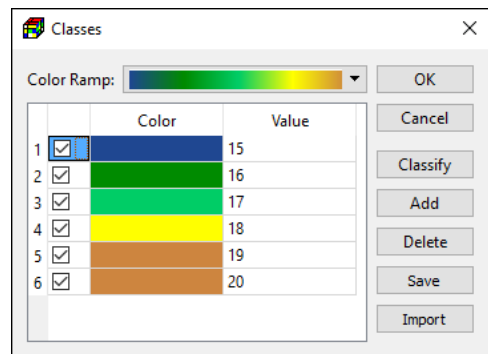

Figure 119. The Classes dialog box
- **Contour Levels:** The contour levels can be defined by clicking on the  button to open the Classes dialog box (Figure 119).